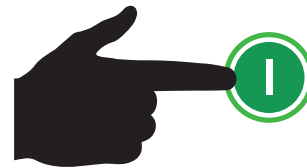

Figure 57. Start Button
5. Press the **START** button (Figure 57) on the touch display to start the engine.